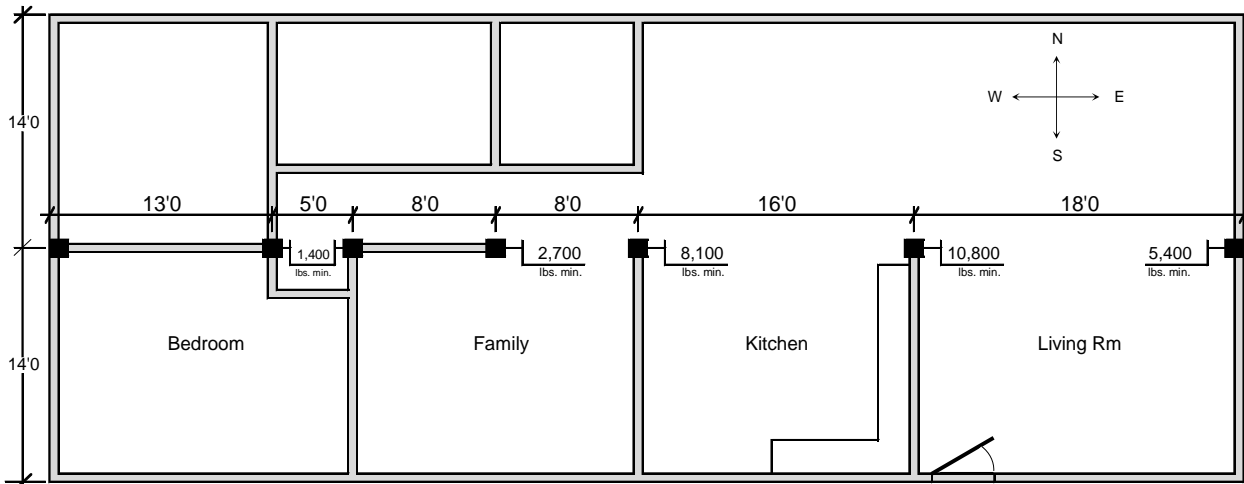

Figure 4 - Example of multi-section home to determine pier capacity of Marriage Line support blocking.
- 2) See Table 8-1 and Figure 4 on Page 8 for Marriage Line blocking requirements.
To determine the pier capacities for the Marriage Line supports, follow the example shown in Figure 4 below.
Using Table 8-1 above, determine the required minimum pier capacity for each Marriage Line opening in Figure 4.
The Marriage Line pier capacity (in pounds) in each location on Figure 4 below is as follows: